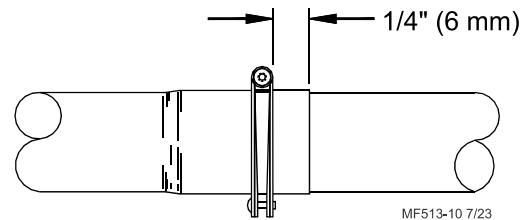

Figure 21. Tube Joint Connection
Make sure that each tube fits as far as possible into the belled end of the next tube. The outlet holes **must point down**. Install tube clamps as shown in **Figure 21**.
- make sure clamp is located, as shown in **Figure 21**.